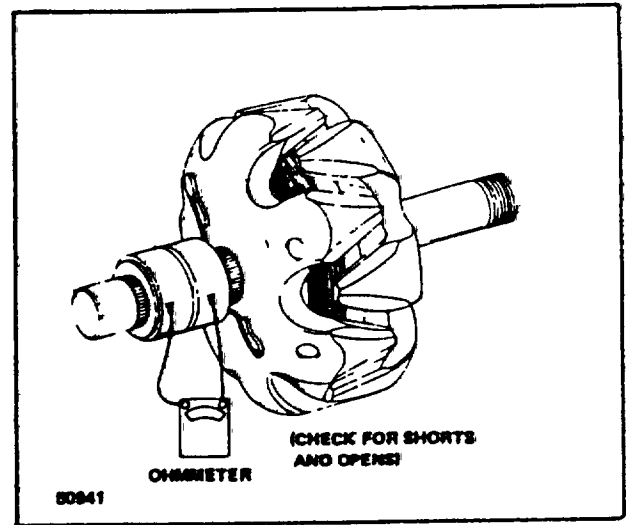

Figure 36. Checking Rotor Field Winding
- (1) Separate end frames as indicated in Alternator Repair Disassembly section.
- (2) Check field winding for shorts. See Figure 36. If shorted replace rotor and regulator.
To check for opens, connect the test lamp or ohmmeter to each slip ring. If the lamp fails to light, or if the ohmmeter reading is high (infinite), the winding is open (Fig. 36).
An alternate method is to check the resistance of the field by connecting an ohmmeter to the two slip rings (Fig. 36). If the resistance reading is below the specified value, the winding is shorted; if above the specified value the winding has excessive resistance. The specified resistance value can be determined by dividing the voltage by the current given in alternator specifications. Remember that the winding